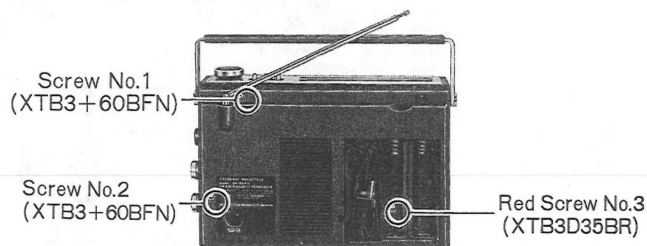

Fig. 1
1. Remove four (4) control knobs from cabinet.
3. Remove whip antenna from antenna bracket, as illustrated in fig. 1.
4. Remove three (3) cabinet cover screws, nos. 1~3, as illustrated in fig. 1.